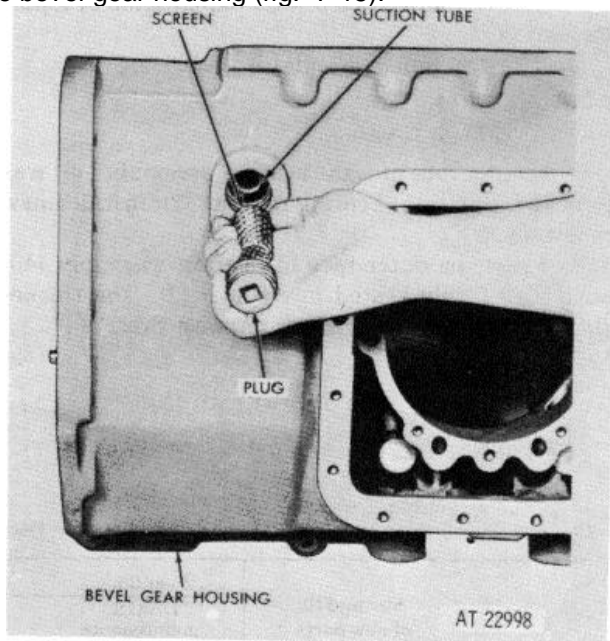

Figure 7-15. Removing (or installing) plug and output pump screen.
a. Remove plug and output pump screen from the bevel gear housing (fig. 7-15).
a. If dowel pins (13) were removed, press replacements into housing (9), so that they extend 0.30 inch above the housing surface.
b. If dowel pins (14, 15 and 17) were removed, press replacements into housing (9), flush with, to 0.03 inch below, the housing surface and stake metal over the pins.
c. If dowel pins (18) were removed, press replacements into housing (9), so that they extend 0.20 inch above the housing surface.
e. If output pump suction tube (16) was removed from housing (9), install a new replacement. Press the tube until the shoulder of the tube is firmly seated in the housing.
f. Install output pump screen (26) and plug (27) into housing (9). Refer to figure 7-15.